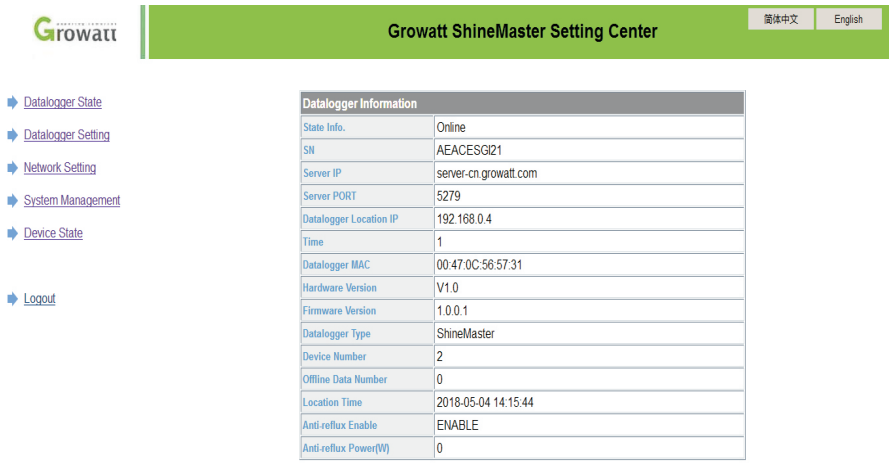

Fig 4-1
1.If the user successfully access the ShineMaster internal page, you can directly enter the built-in page login interface, as shown in Figure 4-1